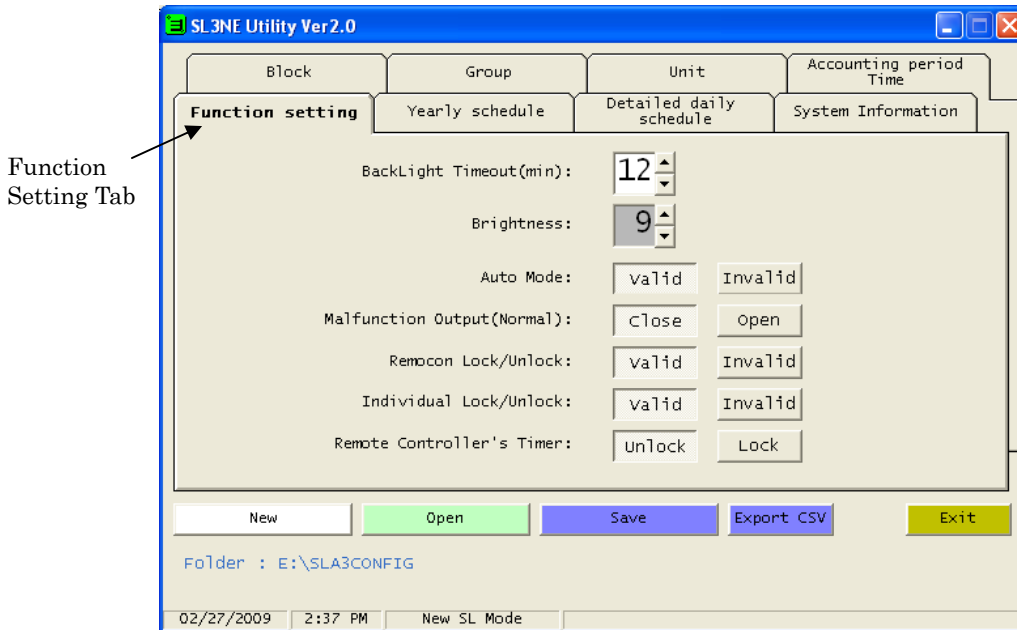

Fig.11 Function Setting screen
- Click on the “Function Setting” tab, the Accounting Period Time screen shown in Fig.11 will appear.